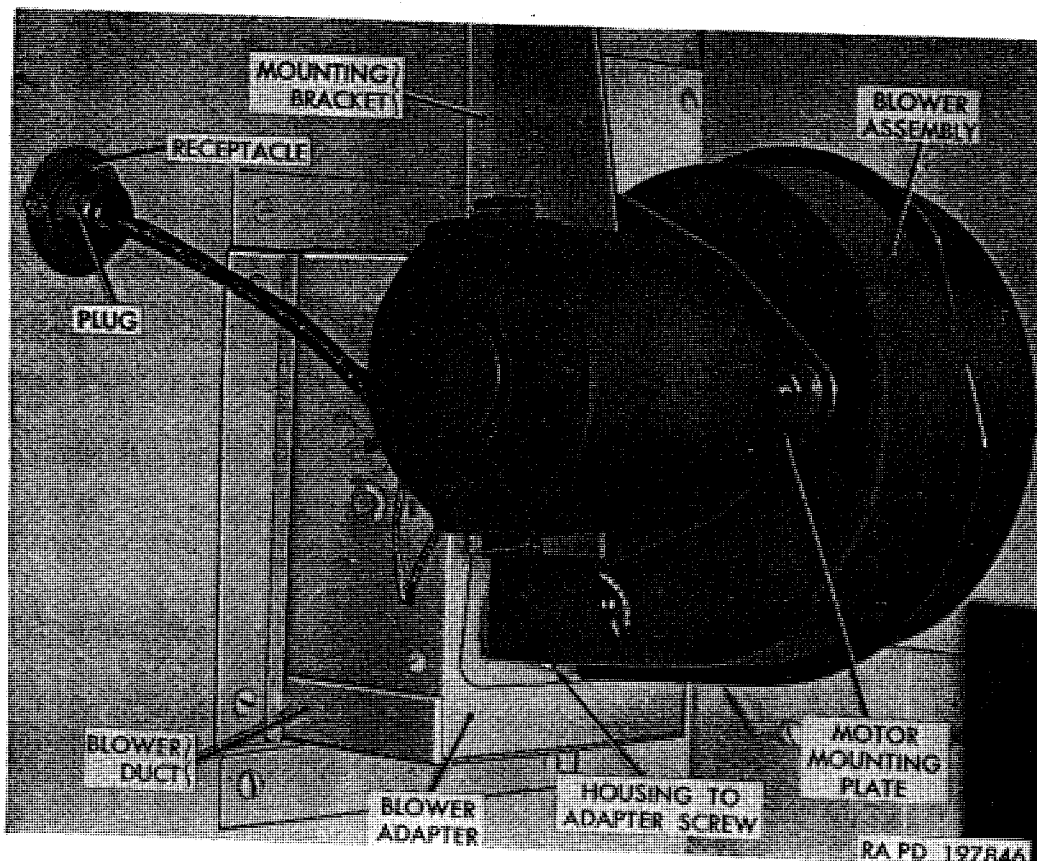

Figure 389. Exhaust blower installed.
(fig. 389)
- (2) Blower housing is attached to blower adapter by six screws, only one of which is visible in figure 389. There are two screws at top, two at bottom, and one on each side. Remove all six blower housing-to-adapter screws.
- (3) Remove nuts from two blower housing-to-motor-mounting-plate studs which extend through the mounting bracket.
- (4) Disengage studs from mounting bracket and pull blower assembly away from blower adapter.